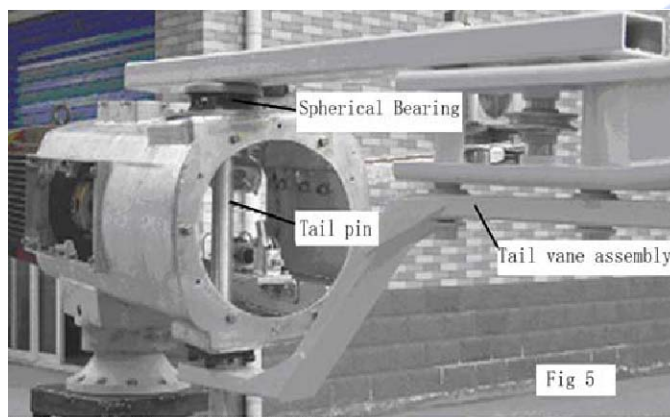

Fig 5
- 1 System diagram (the system diagram please refer to the fig 5)